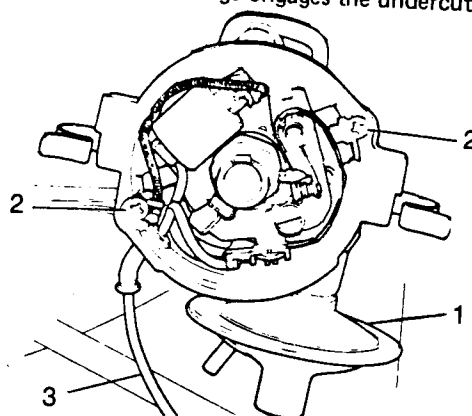
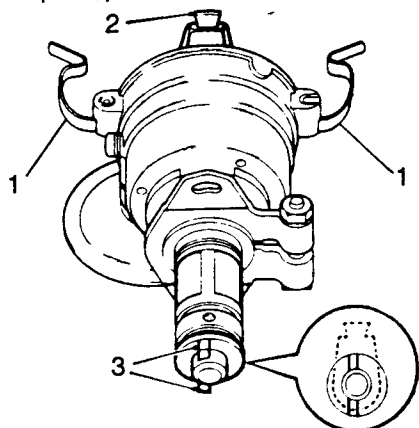

Fig D5.4
Fig D5.1
- (9) Refer to Fig D5.4. Take up the slack in the low tension lead (3) by pulling it and the grommet through the body.
- (10) Replace the vacuum unit (1), re-engaging the operating arm to the movable plate. Secure with the two retaining screws (2).
- (11) Grease the outside of the contact breaker hollow pivot post and lightly smear the spindle cam, using Retinax 'A' grease.
- (12) Replace the cam oiling pad and apply one or two drops of clean engine oil to it.
- (13) Replace the rotor arm.
- (14) Replace the moulded cover and secure with the clips (Fig D5.1,(1)).
- (15) Replace the distributor (see Sub-section D4, Chapter 2).
- (2) Refer to Fig D5.1. Spring back the clips (1) and remove the moulded cover (the dust cap).
- (3) Note the relative position of the offset drive dog (3) to the rotor arm lobe (2). The centre line of the drive dog is parallel with and offset to the centre line of the rotor arm.